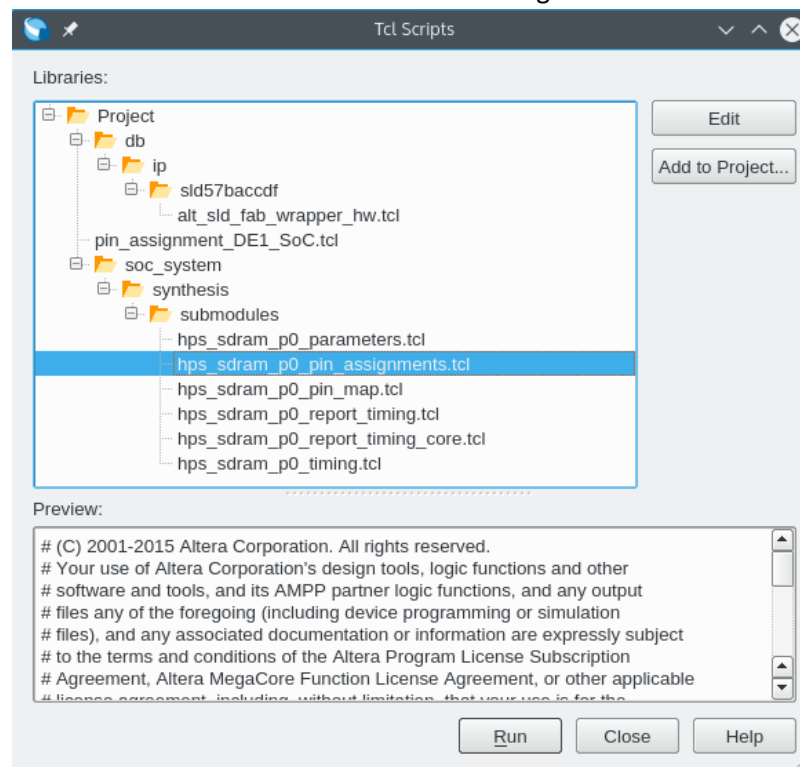

Figure 9-18. Correct HPS DDR3 Pin Assignment TCL Script Selection
**IF AT THIS POINT YOU DO NOT SEE THE SAME THING AS ON Figure 9-18, THEN CLOSE AND RELAUNCH QUARTUS PRIME AGAIN. SOME VERSIONS OF QUARTUS PRIME SUFFER FROM A BUG, WHERE THE PROGRAM DOESN'T CORRECTLY DETECT TCL FILES GENERATED BY QSYS. YOU SHOULD SEE THE SAME THING AS ON Figure 9-18.**